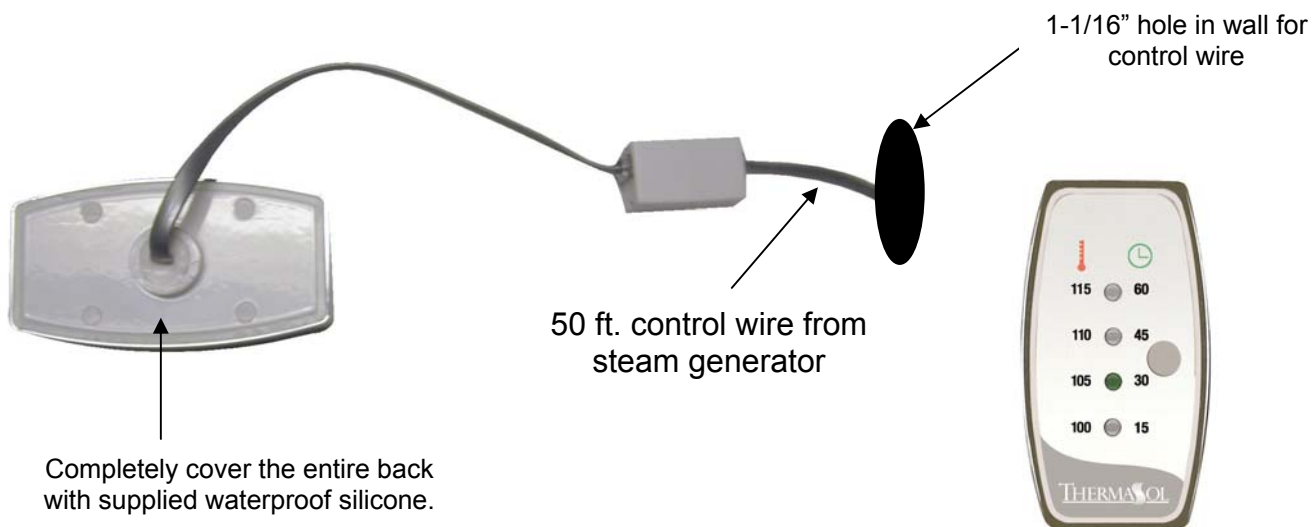

Figure 1
2. Open the powerflush ball valve located on top of the generator (refer to Figure 1) for 5-7 minutes, then close.
7. **THESE STEPS MUST BE TAKEN OR YOUR WARRANTY WILL BE VOID.** Coat the entire control back with supplied waterproof silicon. Completely seal the control to the wall so moisture does not get behind it. Place the control on the wall pressing firmly. You may need to tape the control into place until the silicone dries. Be careful not to harm the wall and/or control with the tape. (Figure 1)